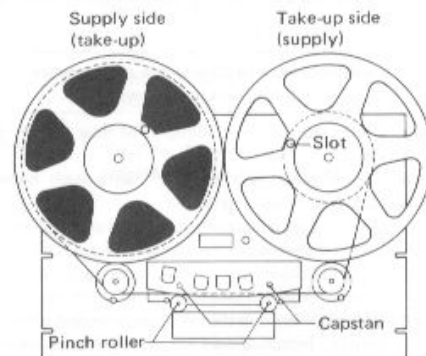

Fig. 8
2. Draw out two turns of leader tape, thread it as in Fig. 8 and insert the end of the tape into the slot provided on the take-up reel.